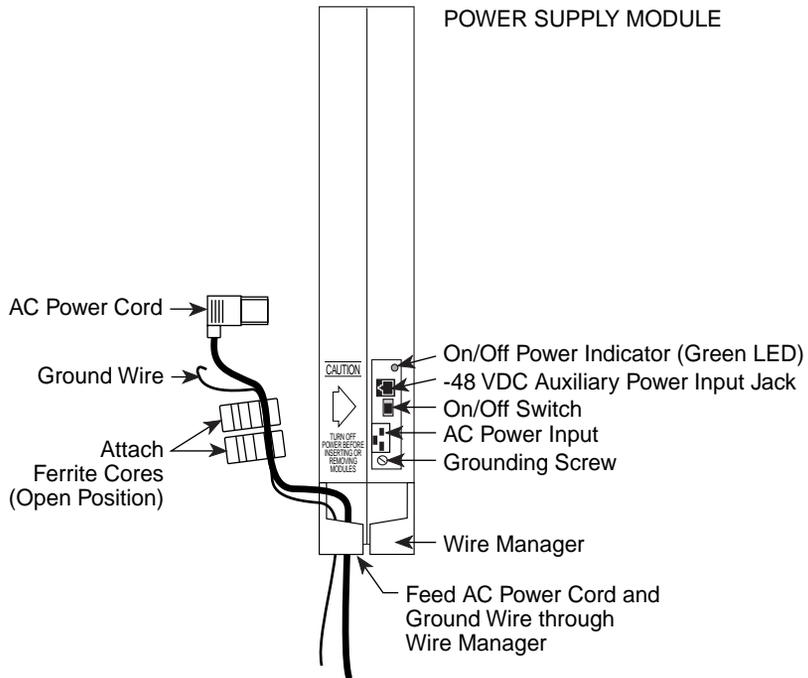

Figure 2-7. Installing the Ferrite Cores
1. Feed the AC power and ground wire through the wire manager (refer to Figure 2-7).
5. Slide the ferrite cores between the wire manager and the power supply module (refer to Figure 2-7).